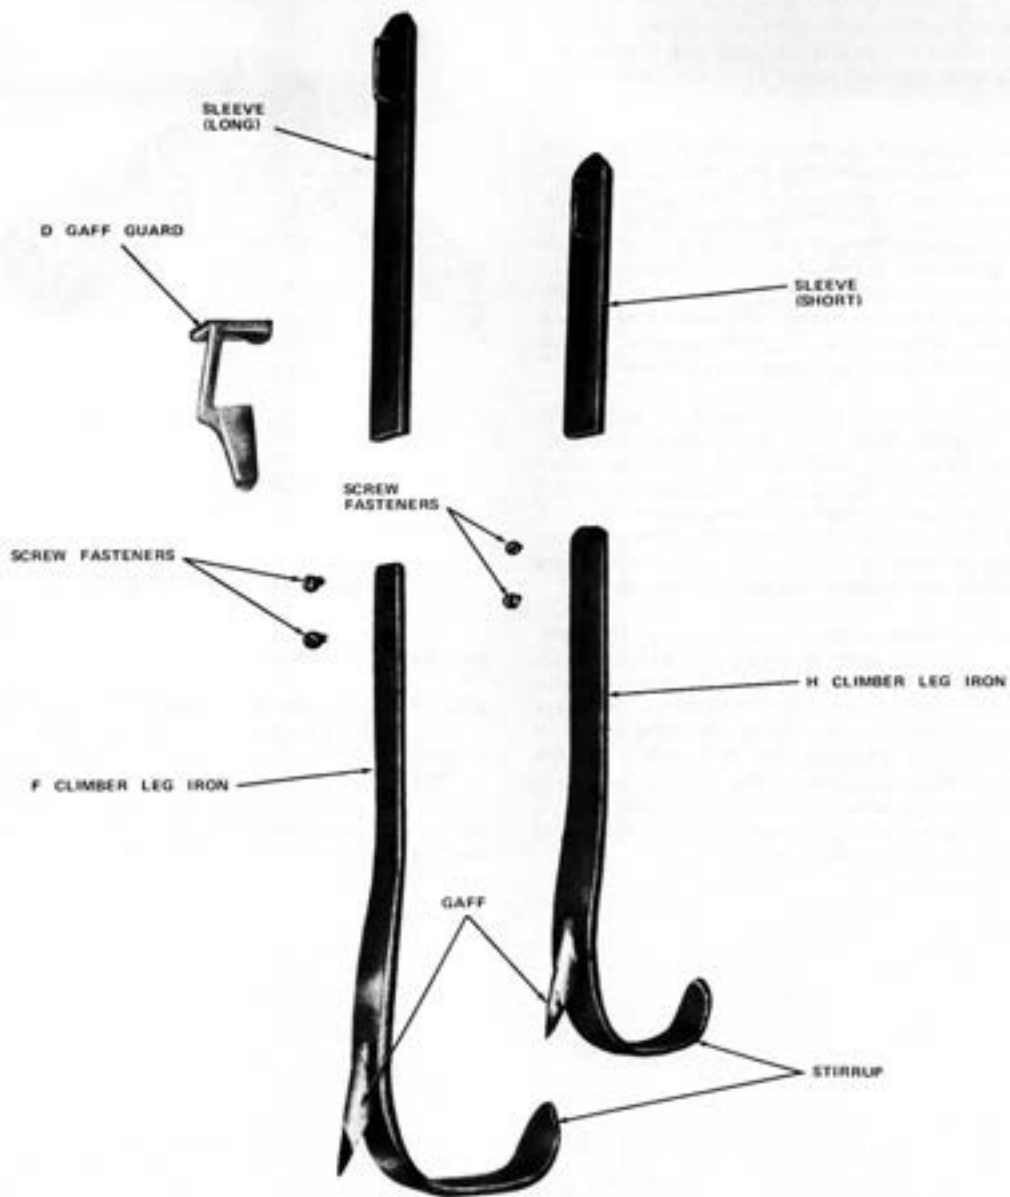

Fig. 3—H Climber
3.06 The H climber is identical to the F climber except the leg iron is 1-1/4 inches shorter in length (Fig. 3). The stirrup on the climber is smaller in width and depth to accommodate smaller size work boots. The H climber uses the same adjustable sleeves, foot straps with split rings, and other standard parts used with the F climbers.⚡